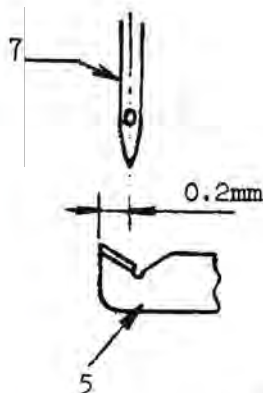

Fig. 1
Set the cutting blade (5), using a shim (6), so that the distance from the center of the needle (7) at its inside throw to the left edge of the cutting blade will be 0.2mm as shown in Fig. 1.